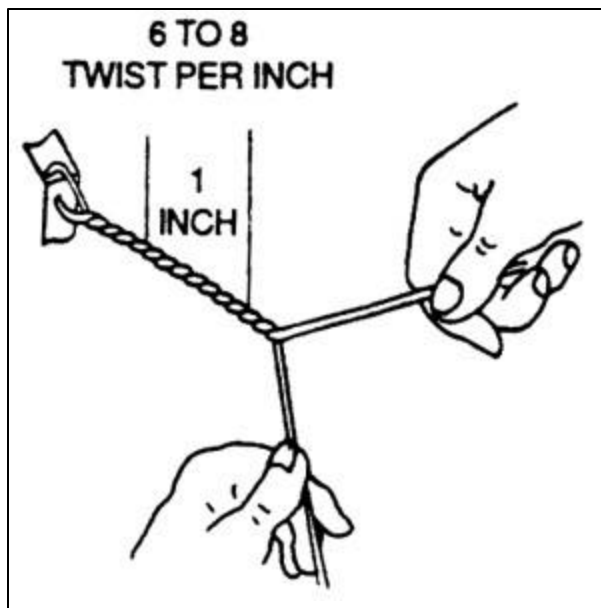

FIGURE 7-3a. Wire twisting by hand.
e. Safety wire must never be over-stressed. Safety wire will break under vibrations if twisted too tightly. Safety wire must be pulled taut when being twisted, and maintain a light tension when secured. (See figure 7-3a.)
(1) Check the units to be safety wired to make sure that they have been correctly torqued, and that the wiring holes are properly aligned to each other. When there are two or more units, it is desirable that the holes in the units be aligned to each other. Never overtorque or loosen to obtain proper alignment of the holes. It should be possible to align the wiring holes when the bolts are torqued within the specified limits. Washers may be used (see paragraph 7-37) to establish proper alignment. However, if it is impossible to obtain a proper alignment of the holes without undertorquing or overtorquing, try another bolt which will permit proper alignment within the specified torque limits.
(2) To prevent mutilation of the twisted section of wire, when using pliers, grasp the wires at the ends. Safety wire must not be nicked, kinked, or mutilated. Never twist the wire ends